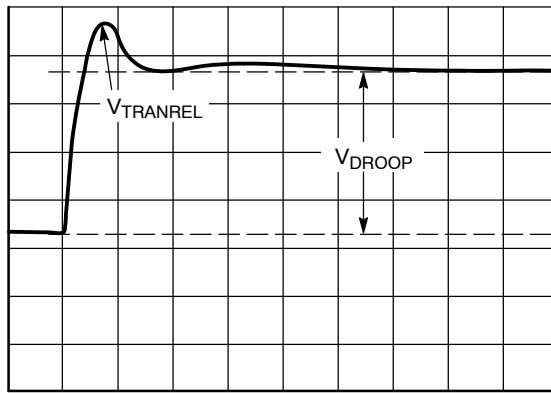

Figure 30. Transient Setting Waveform, Load Release
21. For load release (see Figure 30), if $V_{TRANREL}$ is larger than the IMVP-6 specification, there is not enough output capacitance. Either more capacitance is needed or the inductor values needed to be smaller. If the inductors are changed, then start the design over using Equation 1 to Equation 43 and this tuning guide.